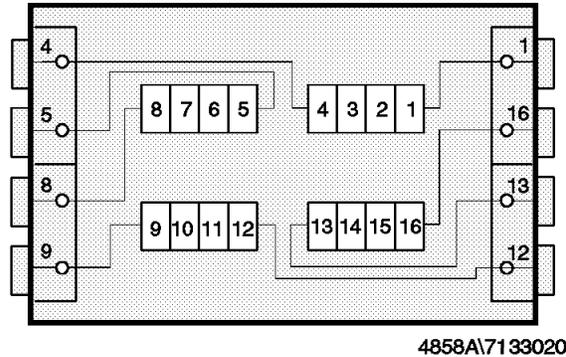

Figure 78. Internal Connections in the 7133
- As per Figure 78 on page 232, the 7133 can hold 16 disks, divided into groups of four. If you don't have an exact multiple of four disks you will need to install dummy connectors to fill in the gaps to make up 4, 8, 12 or 16